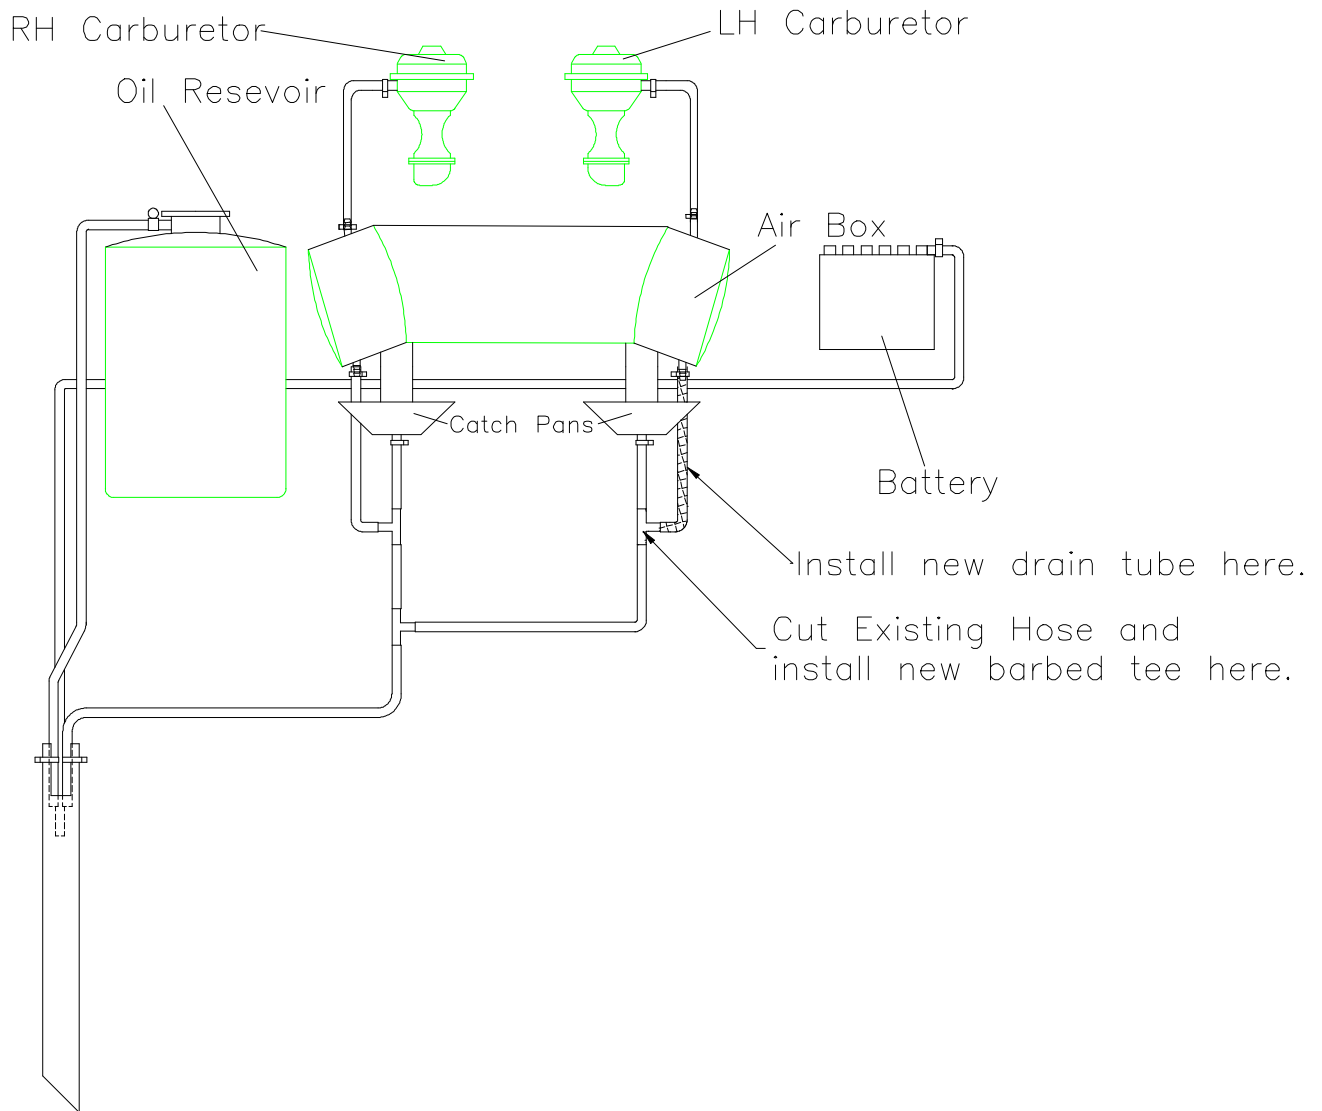

Figure 2
- 10.18 Connect left hand airbox drain tube by cutting existing left hand catch pan drain and installing supplied barbed tee fitting as shown in figure 2.